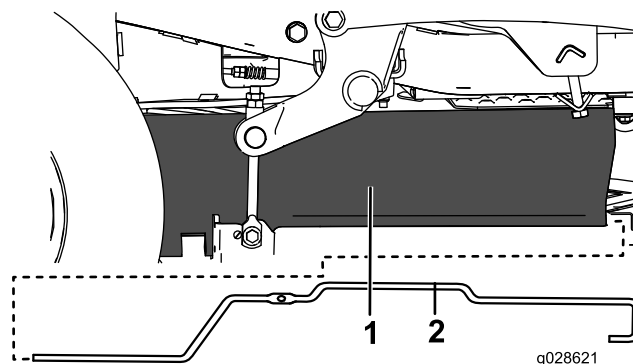

Figure 14
2. Insert the new support rod into the curtain (Figure 14).